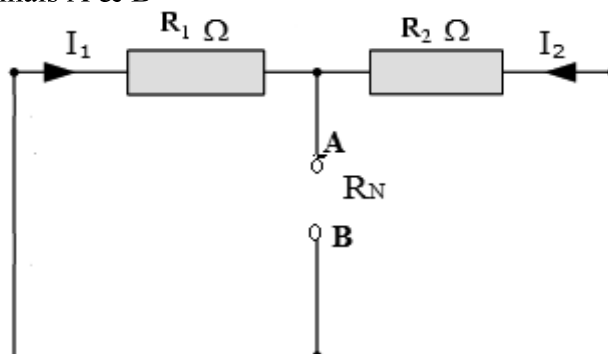

Figure 3
7. Remove both voltage sources by internal resistances or short circuits the terminal of it's and measure the resistance between open terminals A and B (i.e.  $R_N$ ). As shown in figure 3